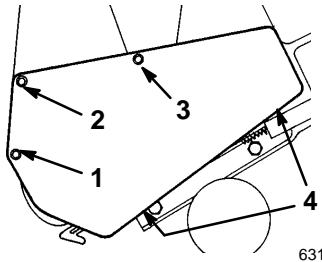

Figure 20
2. Remove three self tapping screws, two capscrews, one washer, and two locknuts that secure the belt cover to the snowthrower frame (Fig. 20). Set the drive belt cover aside.